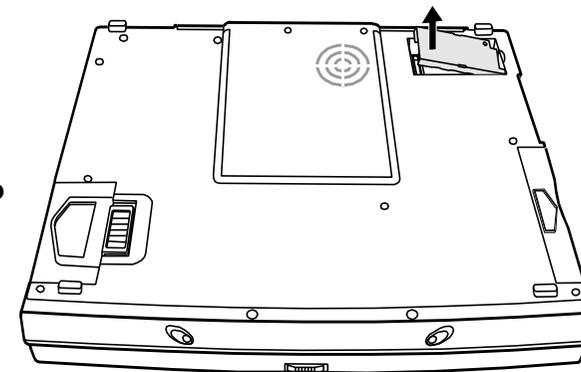

Figure 5-18. Removing the Modem/LAN Card
1. Hold the Modem card at an angle so that the phone line connector is pointed towards the opening on the notebook. Insert the connector into the opening and press the other end to plug the Modem card into the socket on the system board. (Refer to Figure 5-18 earlier.)